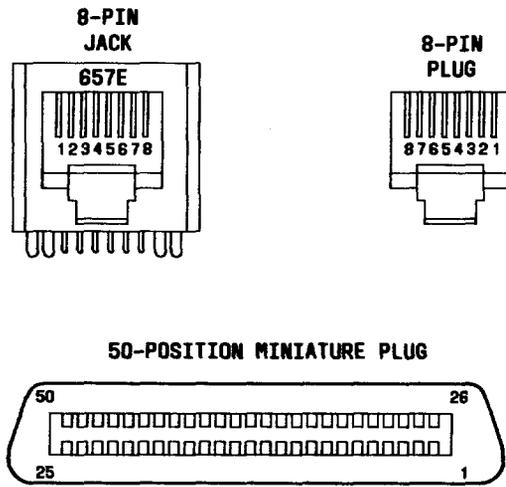

Fig. 3—Customer Connector Pin Numbers
4.06 Connections to customer equipment can be made using the 16-position terminal strip, the 50-position miniature ribbon plug, or the 8-pin modular jack. Figure 3 shows the pin assignments used in the 8-pin jack and 50-position plug. Refer to Table B for interface lead functions, designations, and connector appearances.